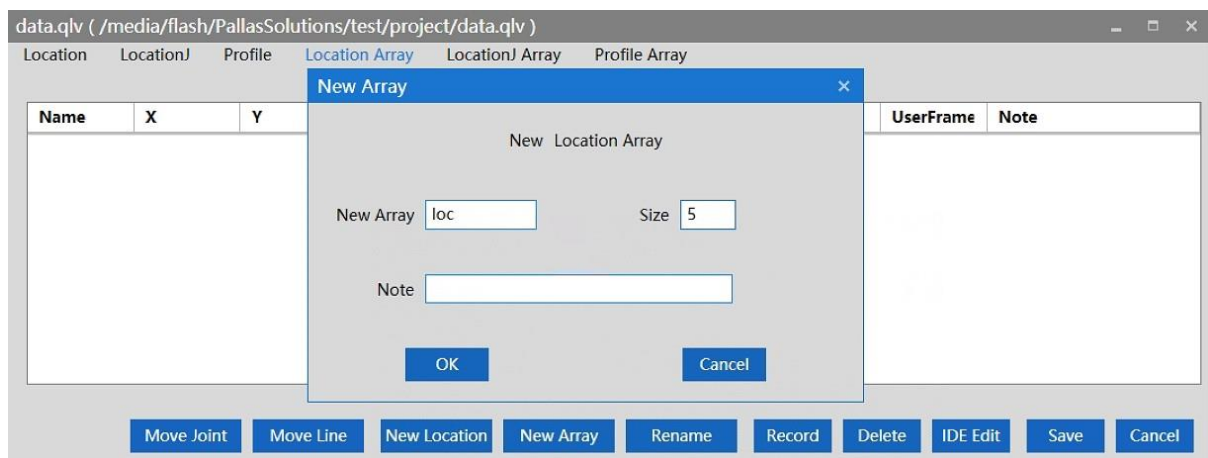

Figure 6-36 New Location Array
**Step 4** New Location Array; Click "New Array" in "Location Array", and the "New Array" interface will pop up. Enter the array name and array length, and click "OK", as shown in Figure 6-36.